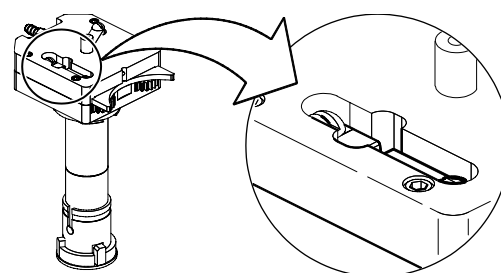

Figure 36 Inspecting the Power Strap Screws
11. Ensure that the two power strap screws are tight. See Figure 36.